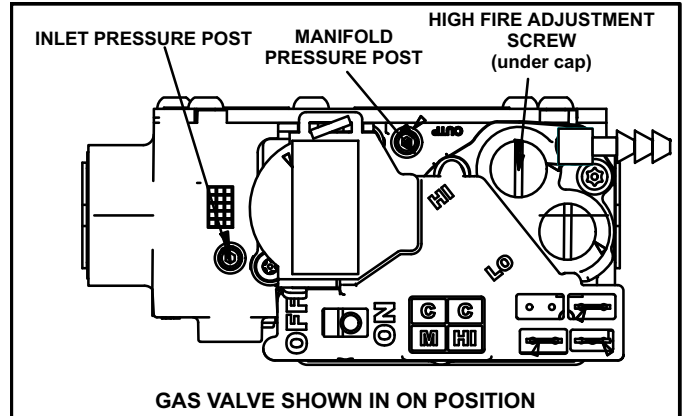

FIGURE 66
Gas Valve Operation (Figure 66)
- 6 - Move gas valve switch to **OFF**. See figure 66.
- 8 - Move gas valve switch to **ON**. See figure 66.
An inlet post located on the gas valve provides access to the supply pressure. See figure 66. Back out the 3/32 hex screw one turn, connect a piece of 5/16 tubing and connect to a manometer to measure supply pressure. See table 17 for supply line pressure.
A manifold pressure post located on the gas valve provides access to the manifold pressure. See figure 66. Back out the 3/32 hex screw one turn, connect a piece of 5/16 tubing and connect to a manometer to measure manifold pressure.
- 5 - If necessary, make adjustments. Figure 66 shows location of high fire and low fire adjustment screws.